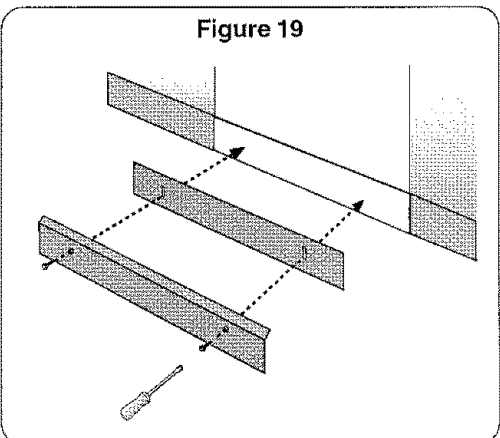

Figure 19
3. Drive the two black screws (included) through the hole in the toe panel to secure. Use the supplied screws to avoid damaging the dishwasher. See Figure 19.